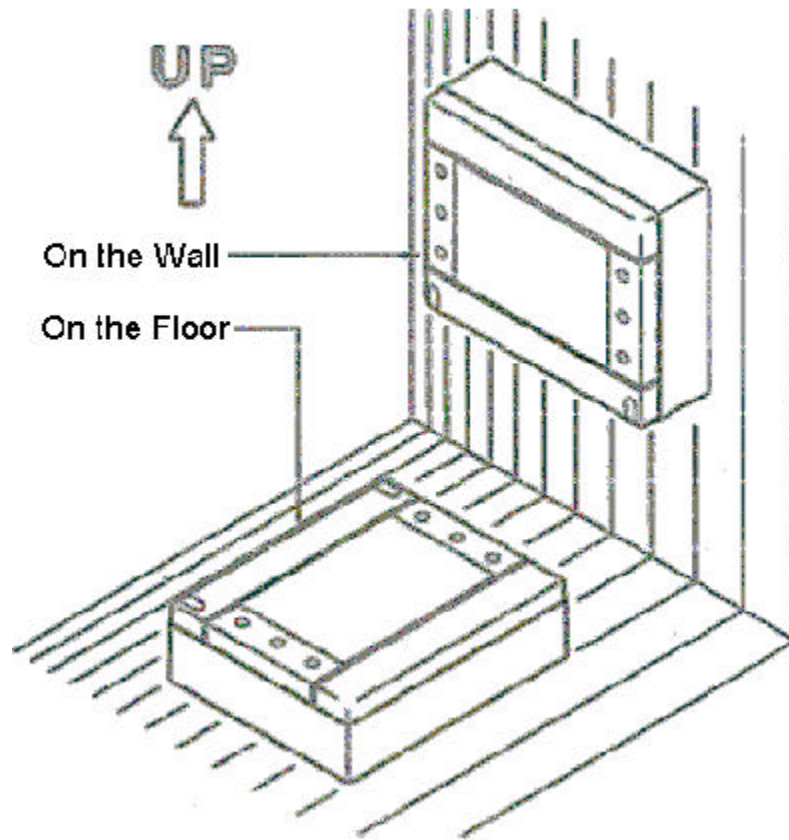

Figure 3-14: Outdoor RP Recommended Positions
2. Make sure that the outdoor RP is installed in one of the positions shown in Figure 3-14.